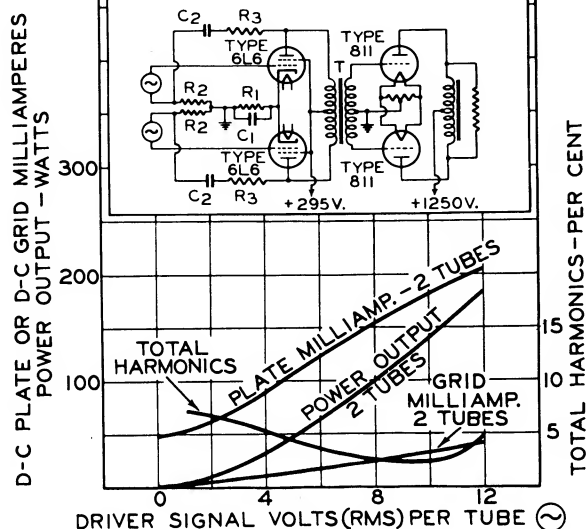

Figure 1
class B at a plate voltage of 1250 volts (zero bias) will deliver 175 watts, and are, therefore, well suited for the modulator stage. A pair of 6L6's in class AB₁ are recommended for the audio driver stage in an inverse feedback circuit (see the circuit and curves of Fig. 1). An a-f driving voltage of only 12 volts RMS per grid will drive the 6L6's to the point required for full output from the class B 811's. A pair of 809's in class B, with their new ICAS ratings, will deliver 145 watts of a-f power. They will, therefore, also do a very good job of modulating two 812's.
The 811 is a zero-bias, high-mu class B modulator, as well as an excellent r-f tube. Two 811's in class B provide 225 watts of a-f power, which will do a good job of modulating a $\frac{1}{2}$ kw. 'phone transmitter. A typical class B modulator stage using two 811's driven by two 6L6's, with inverse feedback, is shown in Fig. 1. Operating characteristics are shown in the curves of Figs. 1 and 2. Because of its high pervance and high mu (160), the 811 makes an efficient plate-circuit frequency doubler.